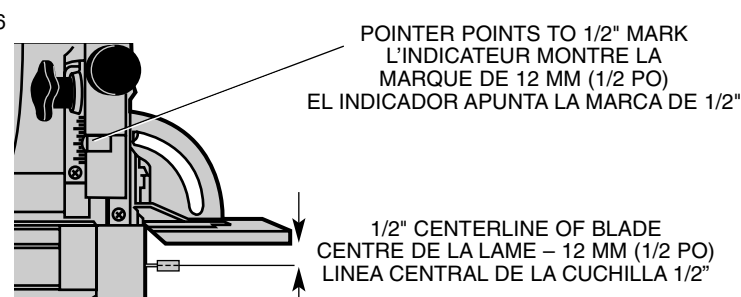

FIG 7
**NOTE:** The M setting has been provided for future use and will not be necessary for most biscuiting operations. To select a depth, align the appropriate number with the red mark scribed in the tool's housing, as shown in Figure 7. Rotate the depth adjustment knob to the desired position and it will "click" into place.